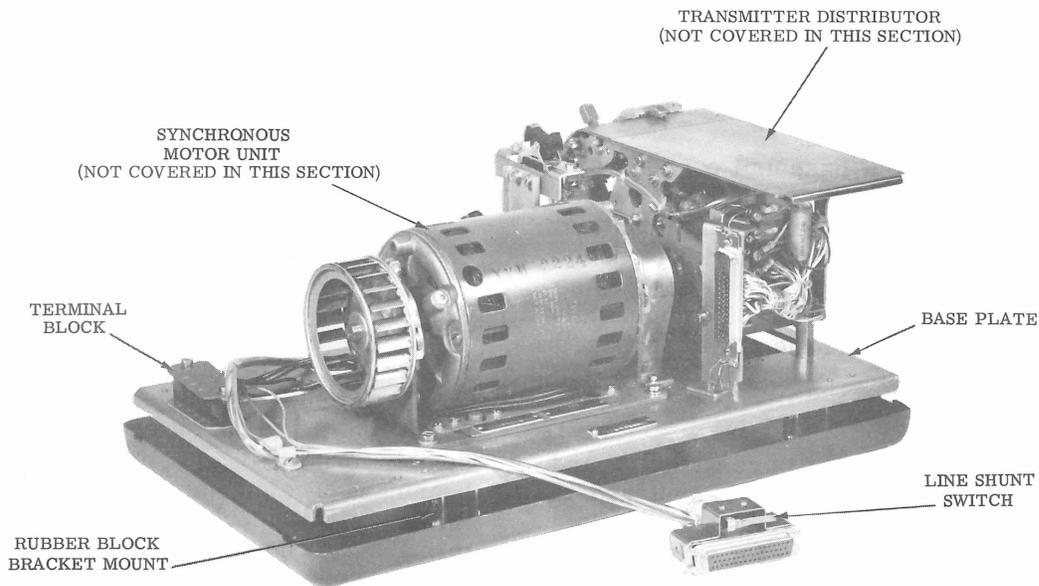

Figure 2 - Standard 35 Transmitter-Distributor Base with Cover Removed, and with Single Contact Transmitter Distributor and Synchronous Motor Unit in Place
3.04 The circuitry for the single contact transmitter distributors used on the bases is wired into a multiple plug which connects directly to its mating connector on the transmitter distributor. A line shunting switch built on the connector is used to close the line circuit when it is disconnected from the transmitter distributor. See Figure 2.